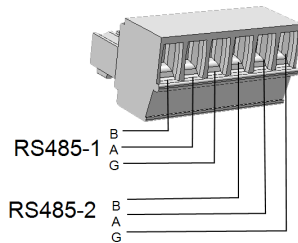

Figure 31: RS485 terminal block
3. Pull out the 6-pin RS485 terminal block connector, as shown in Figure 31.